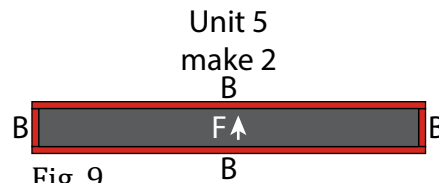

Fig. 9
7. Sew (1)  $1\frac{1}{2}$ " x 6" Fabric B strip to each end of (1) 6" x  $55\frac{1}{2}$ " Fabric F strip. Sew (1)  $1\frac{1}{2}$ " x  $57\frac{1}{2}$ " Fabric B strip to the top and to the bottom of the Fabric F strip lengthwise to make (1) Unit 5 strip (Fig. 9). Repeat to make a second Unit 5 strip.